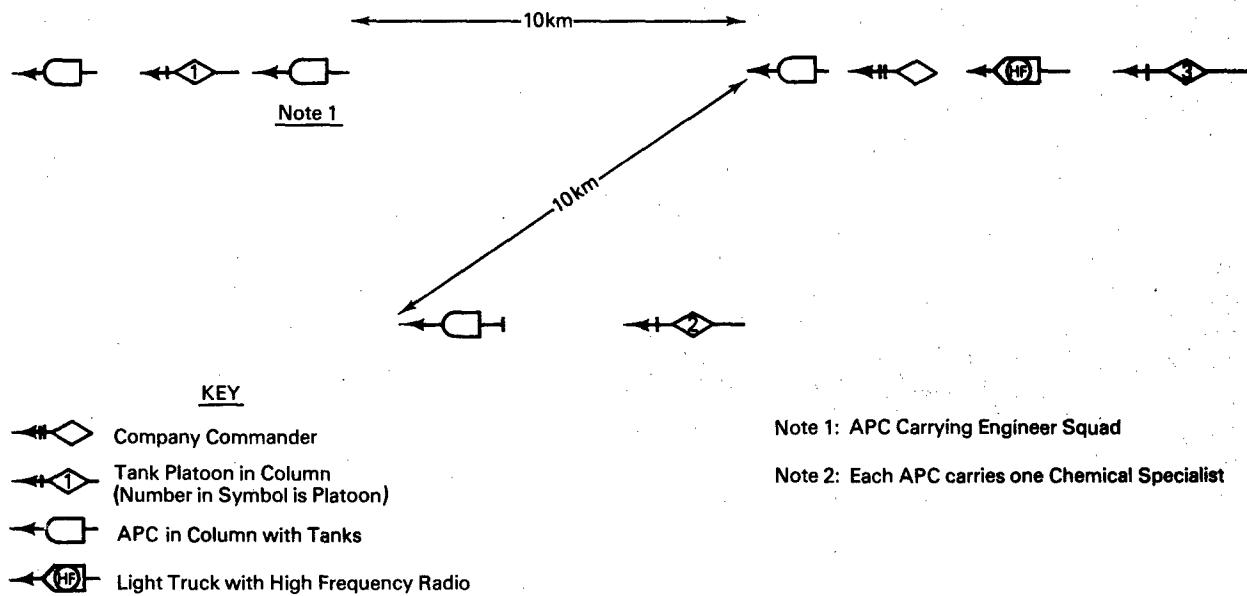

Figure 9. Representative Formation of a Tank Company in Reconnaissance Role.
4. STRENGTHS AND GROUPING. During reconnaissance a tank company usually operates as three patrols, up to 10 kms apart, depending on the mission and terrain. The organization of an intelligence collection patrol is shown in Figure 9.